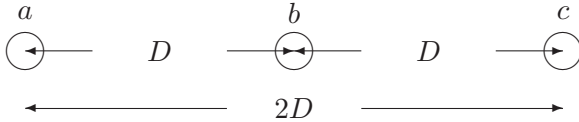

FIGURE 36
4.7. A three-phase, 60-Hz transposed transmission line has a flat horizontal configuration as shown in Figure 36. The line reactance is 0.486Ω per kilometer. The conductor geometric mean radius is 2.0 cm. Determine the phase spacing D in meter.